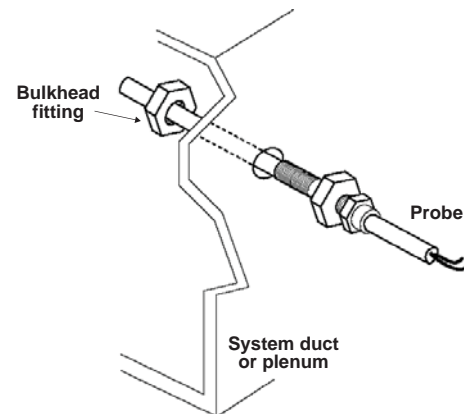

Figure 2 - Installing the TE-701-C or TE-701-D Sensor
5. Make the wiring connections. Refer to **Figure 2**.